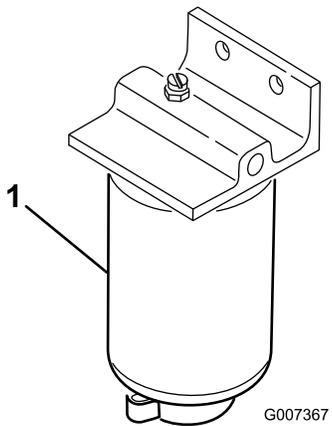

Figure 52
Drain the water or other contaminants from the water separator (Figure 52) daily.
2. Loosen the drain plug on the bottom of the filter canister (Figure 52).